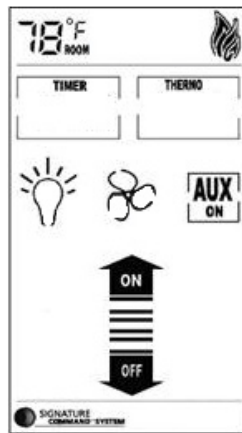

Figure 63
- During the 10 seconds, press the OFF button on the transmitter to learn. Another two beeps will be given to confirm a successful learning. Figure 63
### Manual Mode (Figure 63)